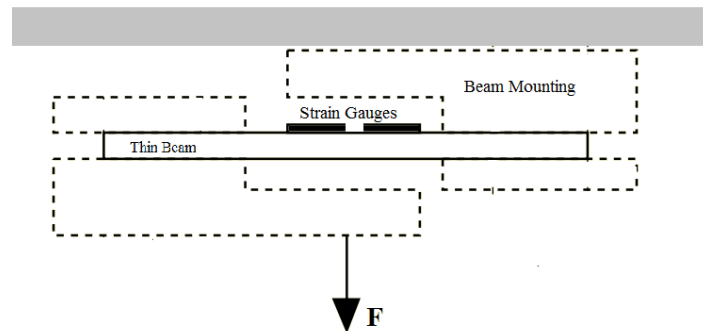
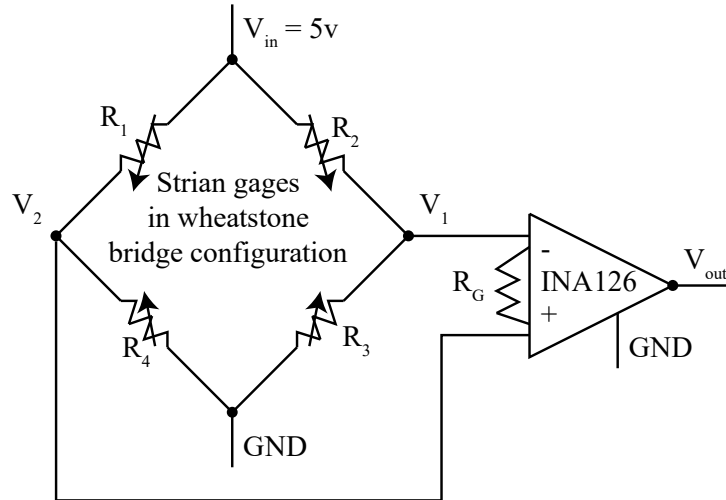

Figure 1. Full bridge thin beam load cell setup.
Figure 2. Wheatstone bridge amplification circuit
The torque applied by the motor will be calculated using the electrical output of strain gauges placed on a thin beam that is undergoing transverse deflection from applied forces. A bonded metal foil strain gauge is a variable resistor whose change in resistance is proportional to the strain in the material upon which it is mounted. For this lab, we will be using Full Bridge Thin Beam Load Cells, which is essentially a complete package of strain gauges mounted on a thin beam Figure 1.
In this setup four gauges are mounted on the top of the beam and are wired together to form a Wheatstone bridge circuit. This arrangement of four gauges provides higher sensitivity than using only one or two gauges and it is insensitive to off-axis forces and temperature changes. You will deform the beam by applying a point force of magnitude F by hanging measured weights at the center of the beam mounting as shown in Figure 1, thus deflecting the beam and creating strain. The strain along the beam is proportional to the force exerted by the weights. The strain will be measured using strain gauges in a Wheatstone bridge configuration. The Wheatstone bridge circuit used in this lab is depicted in the Figure 2. You will calibrate the output of the strain gauges as a function of the applied force using a linear approximation obtained via a least-squares fit. From this calibration, the measurements taken from the strain gauges can be directly converted to the applied force.
- b. What are two reasons for using 4 strain gauges in the lab setup, as shown in Fig. 2?
2. Referring to Fig. 2, what is the resistance value of R_G that will give a gain of 1005.